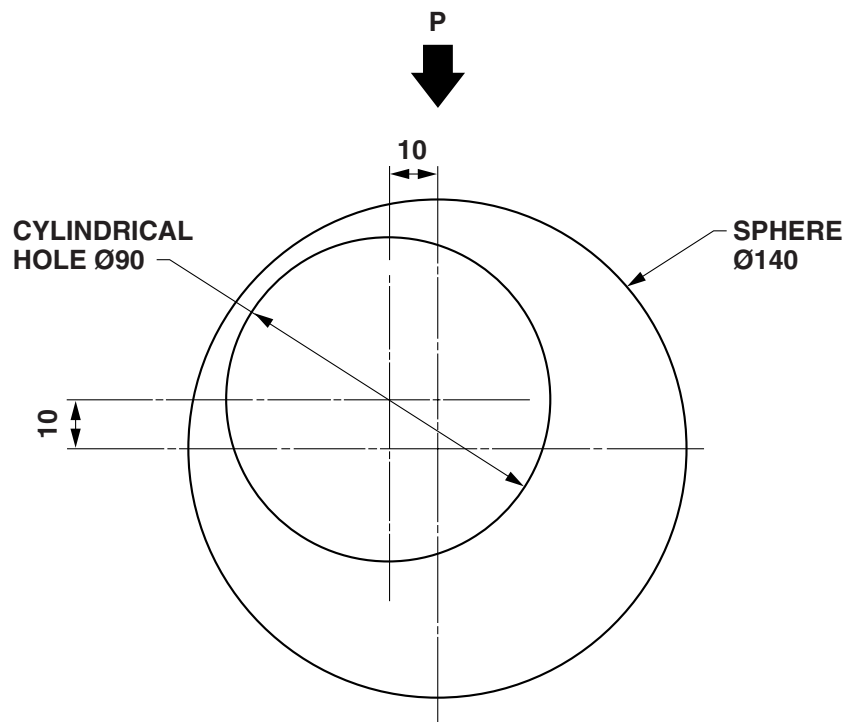

Fig. 1
- 1 Fig. 1 shows the front view of a spherical block of metal with a cylindrical hole half way through it. The horizontal centre line of the hole is parallel with the horizontal plane.